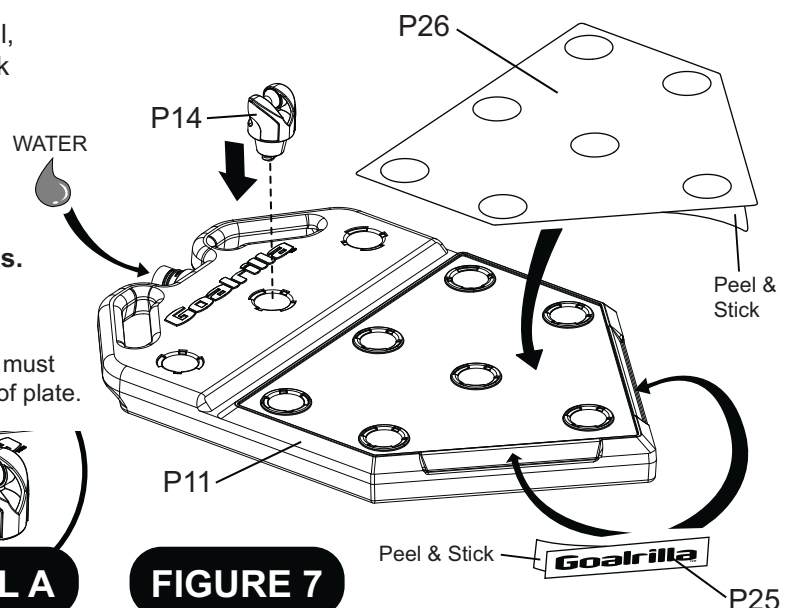

FIGURE 7
Peel and Stick two **P25** Goalrilla Decals and one piece **P26** Home Plate Decal onto **P11** Home Plate as shown in **FIGURE 7**.
Install **P14** Roller Assembly into **P11** Home Plate - install, press down, and turn **P14** 90 degree's to the right to lock into place as shown in **FIGURE 7**.
- To lower the ball, reverse the previous step (**FIGURE 6**) as shown in **FIGURE 7**.